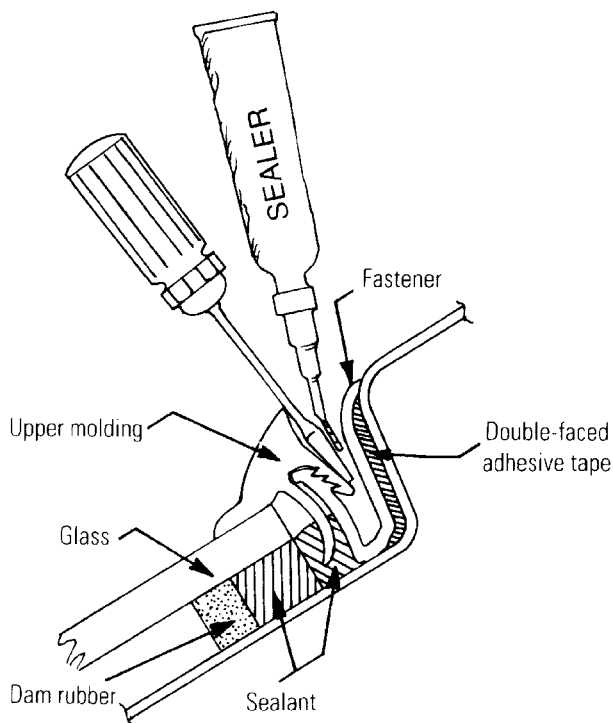
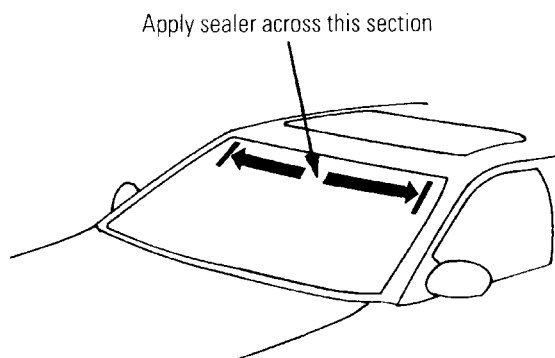

Figure 3
Figure 4
1. Remove the previously installed tape. Using a small screwdriver, pry the upper molding away from the fasteners (Figure 3) and apply a small amount of silicone rubber sealer between the molding and fastener, from corner to corner, across the top section of the windshield (Figure 4).